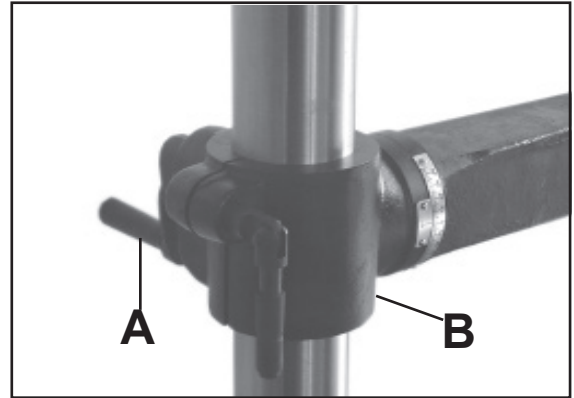

Figure 23
1. Loosen the column lock (A-Fig.23) on the table support bracket (B-Fig.23).
3. Tighten the column lock (A-Fig.23).